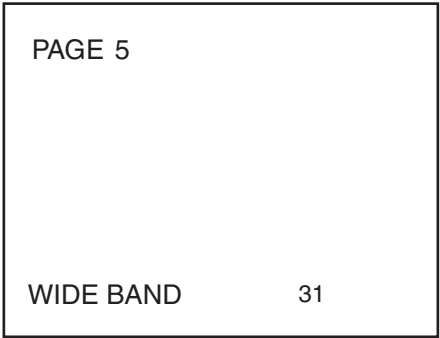

Fig. 5-3
- 1. Connect the oscilloscope to IC701 ① PIN
Using the volume keys on the jig remote controller, adjust the voltage width of IC701 ① PIN waveform to the minimum as in Fig 5-3.